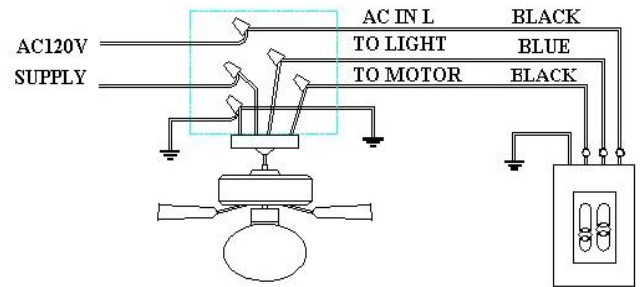

Figure 2
3. Make wire connections and secure with wire nuts supplied, refer to figure 2.